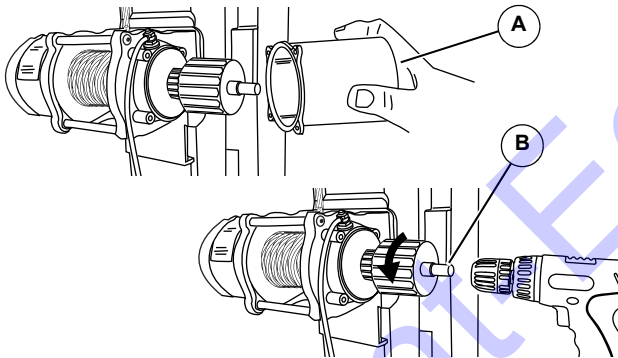

Figure 3-10. Manually Lowering the Mast
1. See **Figure 3-10**. Remove the motor cover (A).